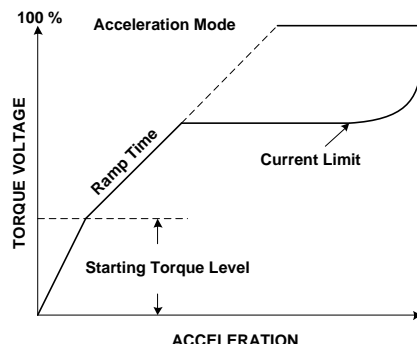

FIG. 3.2.3 Current Limit
3.2.3 Current Limit (see FIG. 3.2.3)